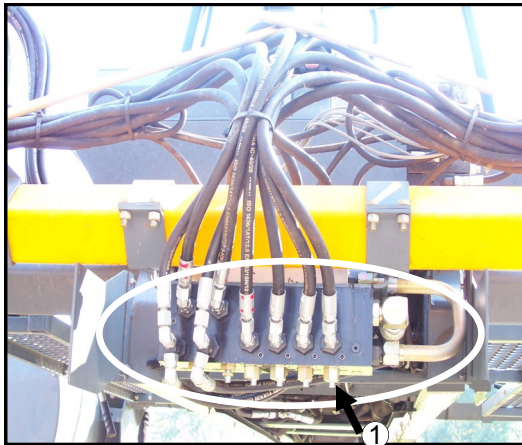
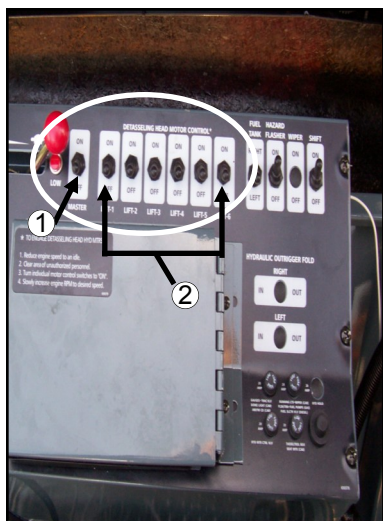

FIG 5.28
FIG 5.29
The hydraulic motors on the detasseling heads (fig. 5.30) are controlled by a master switch (fig. 5.29, item 1) and individually turned on and off with a row of switches mounted on the control panel to the right of the operator's seat (fig. 5.29, item 2). To open the solenoid on any of the motor control valves (fig. 5.28) which activates the motors, flip the corresponding switch (es) away from the operator. To shut any or all motors off, flip the corresponding switch(es) toward the operator.
Each set of motors is controlled with an adjustable needle valve (fig. 5.28, item 1) that restricts hydraulic flow to the hydraulic motors so they don't over-speed and become damaged. This valve is preset at the factory and requires no adjustment.